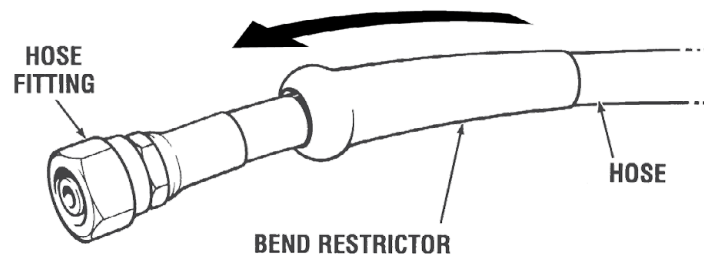

Figure 5-17.
2. Attach the hydraulic hoses to the SmartCylinder and slide the bend restrictor over the fitting as shown in figure 5-17. Torque fitting to 15 ft-lb. (20 Nm). If necessary, you can reposition the fitting on the cylinder. See section 5.5.3.